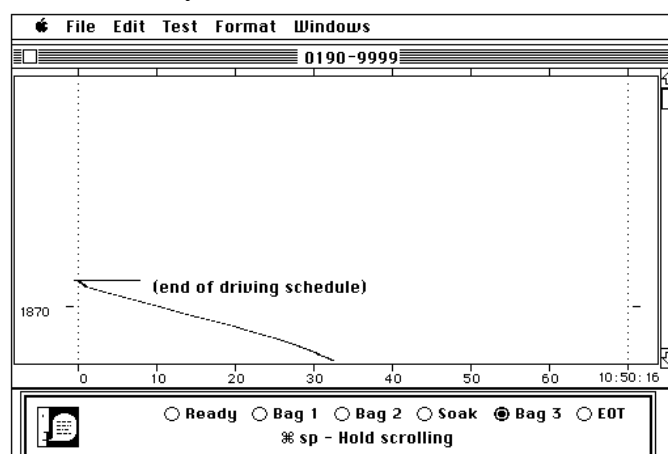

Figure 16
- 334 At the 1874-second point of the UDDS, the VDA will automatically switch off the 3rd set of sample bags. See Figure 16. The “EOT” indicator will come on and the VDA will automatically save the test data.